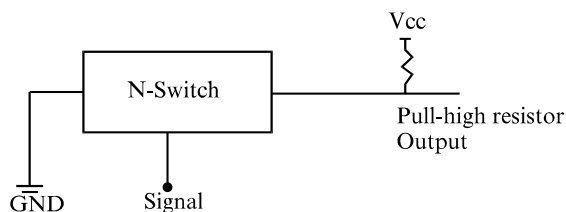

Figure 1
1) N-channel open drain output - DP (Figure 1).